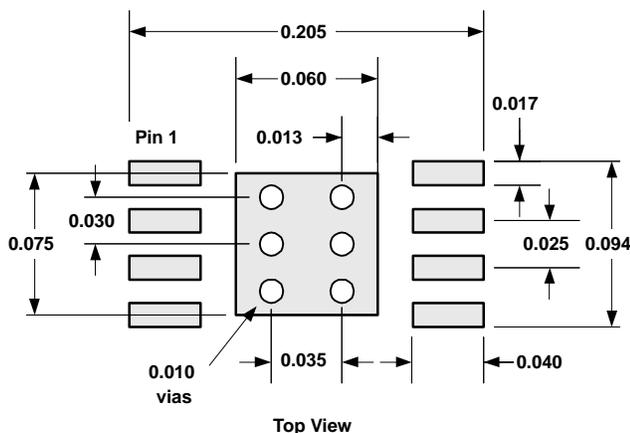

Figure 94. View of Thermally Enhanced Package
1. Prepare the PCB with a top side etch pattern as shown in Figure 94. There should be etch for the leads as well as etch for the thermal pad.